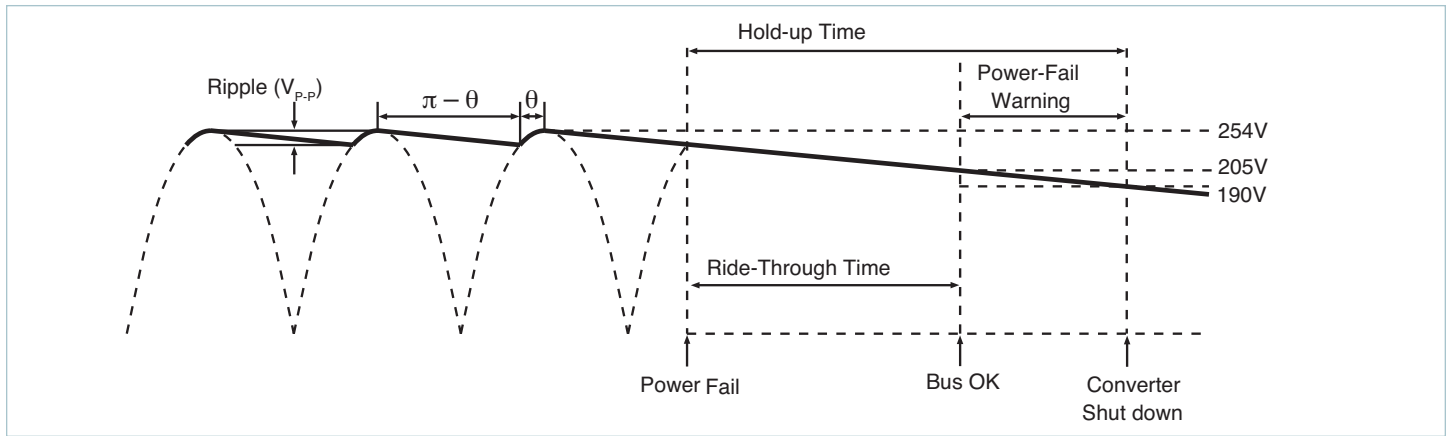

Figure 9.13 — General timing diagram of bus voltage following interruption of the AC mains
**Hold-up Capacitors:** Hold-up capacitor values should be determined according to output bus voltage ripple, power-fail hold-up time, and ride-through time. (Figure 9.13) Many applications require the power supply to maintain output regulation during a momentary power failure of specified duration, i.e., the converters must hold-up or ride-through such an event while maintaining undisturbed output voltage regulation. Similarly, many of these same systems require notification of an impending power failure in order to allow time to perform an orderly shutdown.
The power-fail warning time ( $\Delta t$ ) is defined as the interval between Bus OK and converter shutdown (EN) as illustrated in Figure 9.13. The Bus OK and Enable thresholds are 205 and 190V, respectively. A simplified relationship between power fail warning time, operating power and bus capacitance is obtained by inserting these constants in Equation 3:
Equation 3 is again used to determine the required capacitance. In this case,  $V_1$  and  $V_2$  are the instantaneous values of bus voltage at the peaks and valleys (Figure 9.13) of the ripple, respectively. The capacitors must hold up the bus voltage for the time interval ( $\Delta t$ ) between peaks of the rectified line as given by: